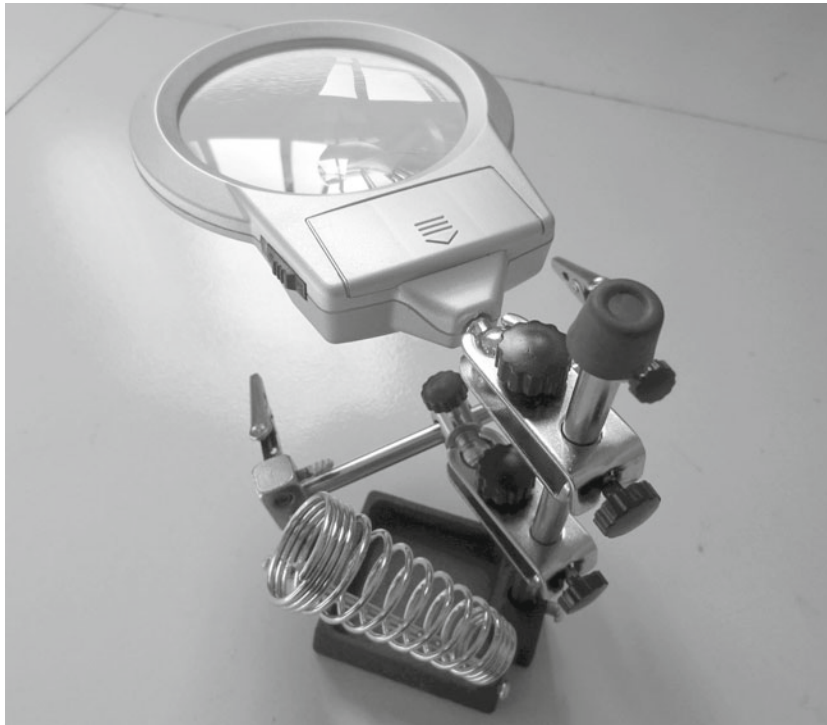

Figure 2-3. *Helping hands* (image courtesy of Jinhua Top Optical Instrument Co. Ltd.)
- A “*helping hands*” work holder (see Figure 2-3): These come in various shapes and sizes, they are sold by electronics hobby stores, handicrafts stores and various other outlets. Essentially, these are stands with a number of alligator clips mounted on arms. Apart from the base (usually quite a heavy thing to provide stability) everything else can be adjusted to almost any position you want. This allows you to hold your circuit board or project in just the right position for you do some soldering or make various adjustments to it; some (like the one in Figure 2-3) come with extra refinements like a soldering iron holder and a magnifying glass with an integral light. This gives superb close-up visibility of the job under way.